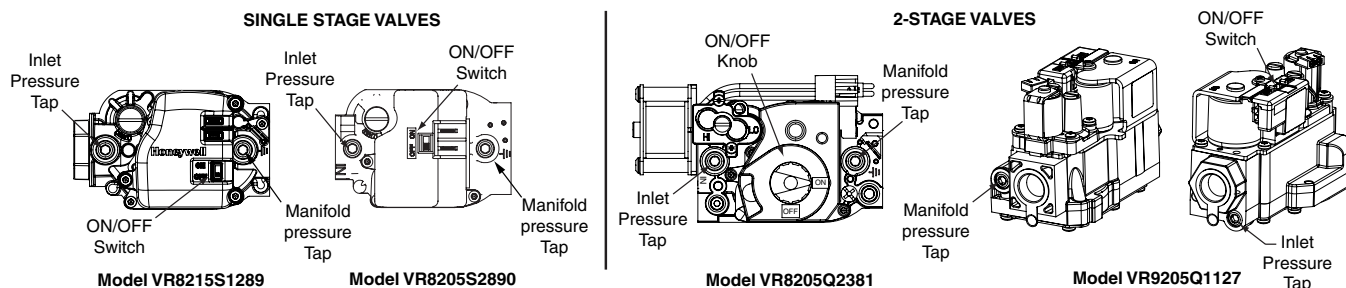

Figure 6. Inlet & Manifold Pressure Tap Locations
2. Using a 3/16" Allen wrench, remove the plug from the inlet pressure tap (INLET side of gas valve). See Figure 6.
4. Place the gas valve ON/OFF switch/knob to the ON position. See Figure 6.
3. Using a 3/16" Allen wrench, remove the manifold pressure tap plug located on the outlet side of the gas valve. See Figure 6 (page 5).